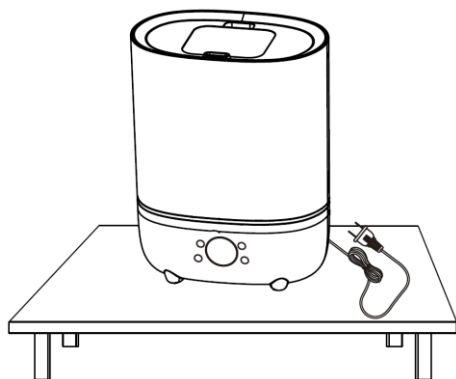

Fig. 2
1. Place the device on flat and dry surface. Unplug the device (fig. 2)